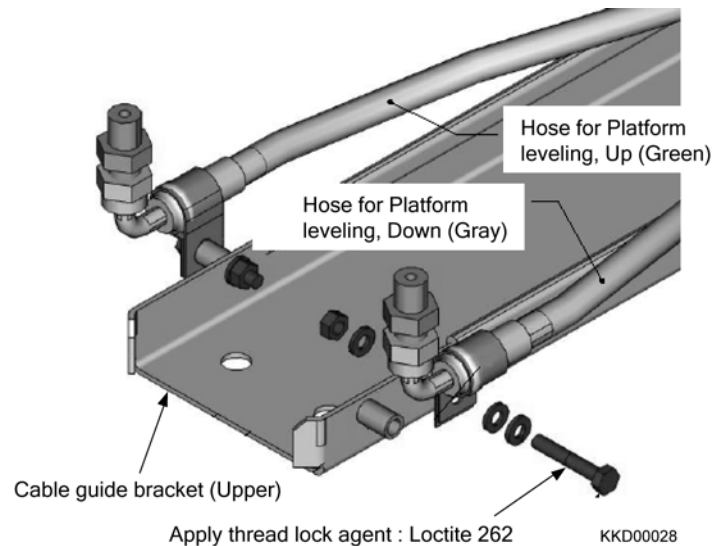

Fig. 2-56
5) Fix the hoses for platform leveling to the top of the cable guide bracket (Upper). (Fig. 2-56)